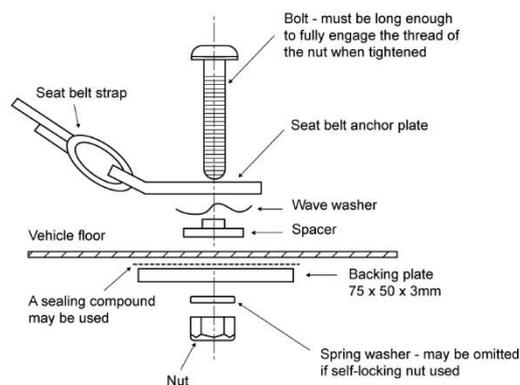

Figure 1: Typical seatbelt anchorage installation
- Use a spacer to allow the seatbelt to rotate (see Figure 1).